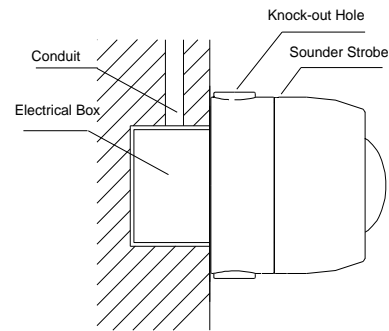

Fig. 3a (deep base)
- If the conduit is embedded in the wall, the base can be mounted on the electrical box. In this case, both deep and shallow bases can be used. Refer to Fig. 3a and 3b.